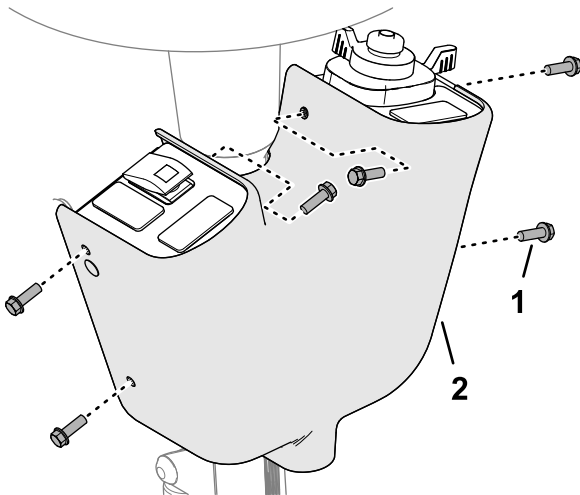

Figure 37
3. Secure the cover to the mount with 4 flange-heads screws ($1/4 \times 3/4$) as shown in Figure 37.